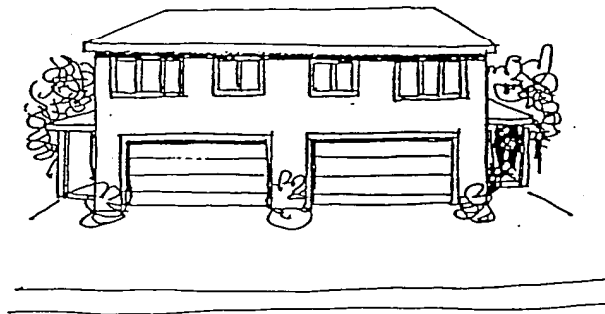

Figure 8
- ☐ Placement of garages behind the front facade line is encouraged (Figure 8).